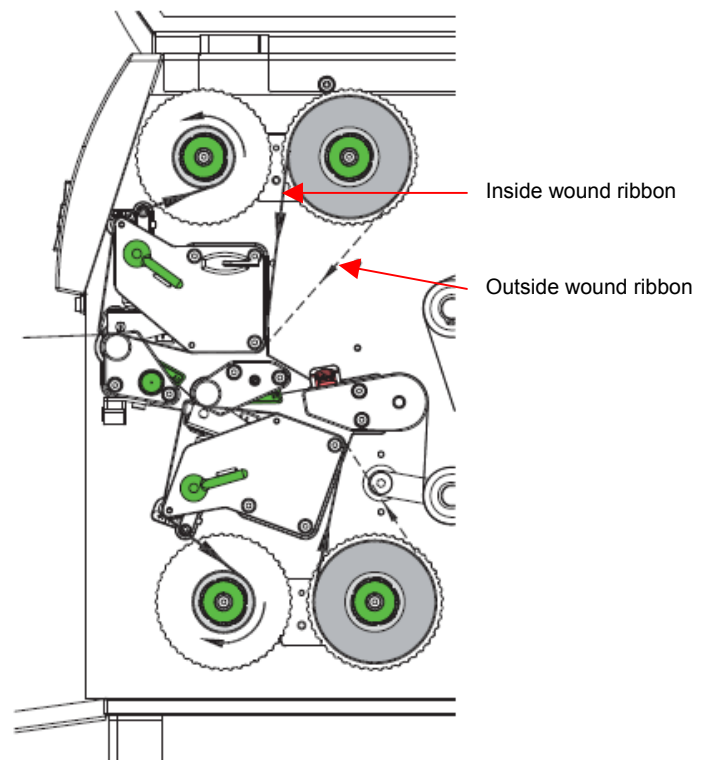

Fig. 11 Transfer ribbon feed path
6. Slide suitable transfer ribbon core (4) onto the transfer ribbon take-up hub (5). Position and secure it in the same way like the supply roll.
7. Guide transfer ribbon through the print unit as shown in Fig. 11.
8. Secure starting end of transfer ribbon to middle of the transfer ribbon core (4) with adhesive tape. When using cores which are wider than the transfer ribbon use the scale (7) at the printhead retainer to adjust the path of the ribbon. Ensure anti-clockwise rotation direction of the transfer ribbon take-up hub.
9. Turn transfer ribbon take-up hub (5) anticlockwise to smooth out the feed path of the transfer ribbon.
10. Turn lever (6) clockwise to lock the printhead.
11. Open the flap (9) and load transfer ribbon to the lower print unit (8) and repeat the instructions as above